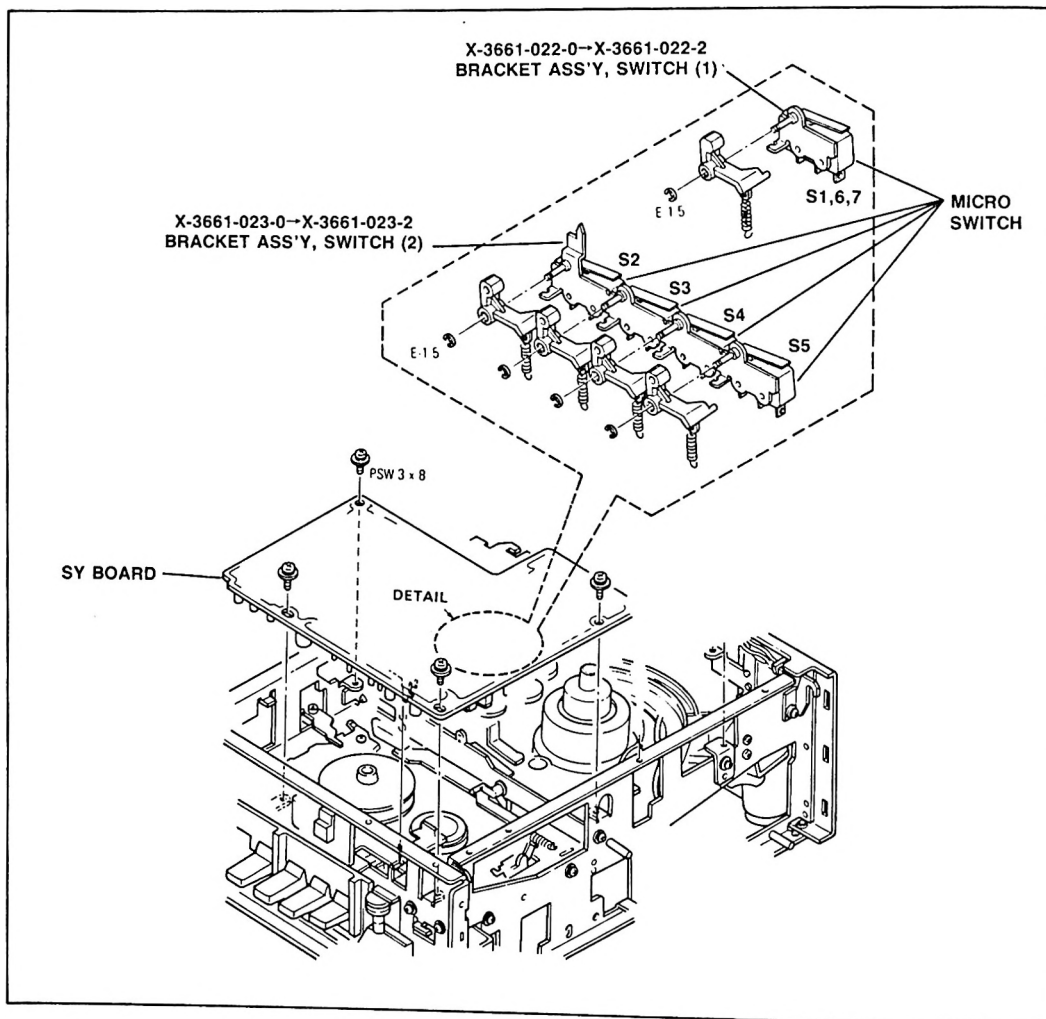

Figure 1
1. Replace former switch bracket assembly with new part as shown in Figure 1, then install new switches to new assembly. Or . . .